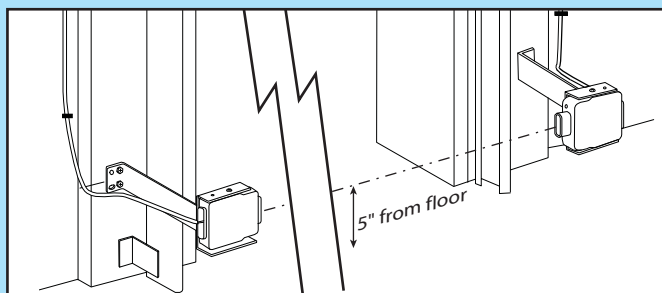

FIG. 5-4 Check Safety Beam Alignment.
#### Check Safety Beam alignment (Fig. 5-4).
- Insure that tops of lenses are between 5" - 6" above the floor (Fig. 5-4). The brackets are flexible, and can be adjusted slightly if needed.